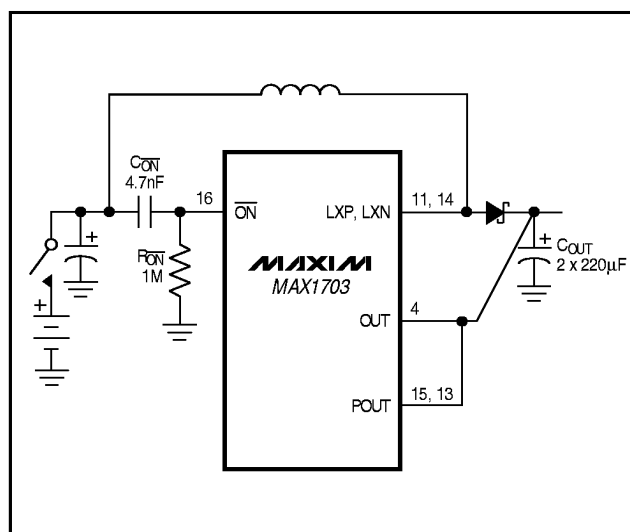

Figure 7. Connecting C_{ON} and R_{ON} when Switch or Battery-Contact Bounce is Anticipated
- 1) Connect a capacitor (C_{ON}) from \overline{ON} to V_{IN} and a 1M Ω resistor (R_{ON}) from \overline{ON} to GND, as shown in Figure 7. This resistor-capacitor network differentiates fast input edges at V_{IN} and momentarily holds the IC off until V_{IN} settles. The appropriate value of C_{ON} is 10^{-5} times the total output filter capacitance (C_{OUT}), so a C_{OUT} of 440 μ F results in $C_{ON} = 4.7$ nF.